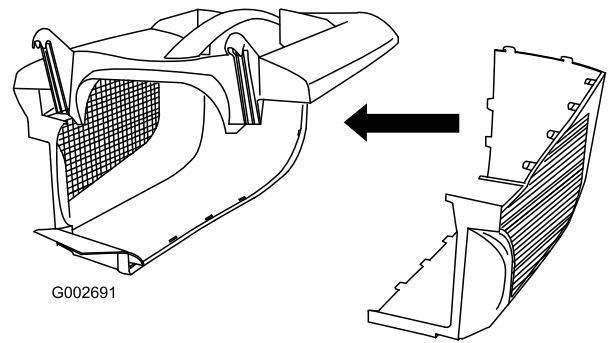

Figure 8
2. Slide the other side into the latches in the top and latch the rear of the 2 sides together (Figure 8).